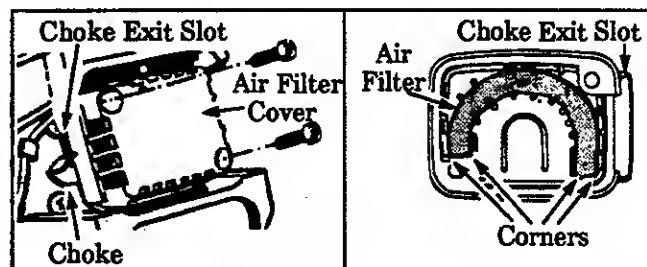

Figure 29
- a. Loosen the two Screws on the Air Filter Cover enough to remove the Cover from the Engine. Figure 29.
- b. Remove the Air Filter from the Cover. Figure 29.
- e. Reinstall the Air Filter Cover, making sure the choke Exit Slot (Figure 29) is placed over the Choke Lever.